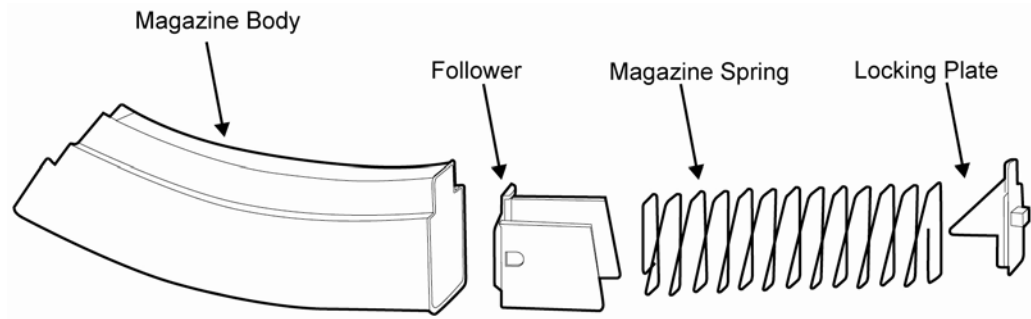

Figure 27. Inserting the Follower, Magazine Spring, and Locking Plate into the Bottom of the Magazine Body.
1. Insert, in the following order, the follower, magazine spring, and locking plate into the bottom of the magazine body. Refer to Figure 27.